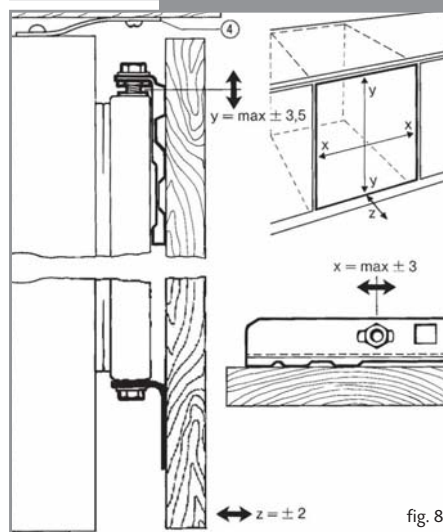

fig. 8
- Pre-adjust the appliance at slots (4) as shown in figure 8, into the mounting plate on the worktop.
- Adjust height Y at locating pin (14mm wrench) as shown in figure 8, $Y = \max \pm 3.5\text{mm}$.